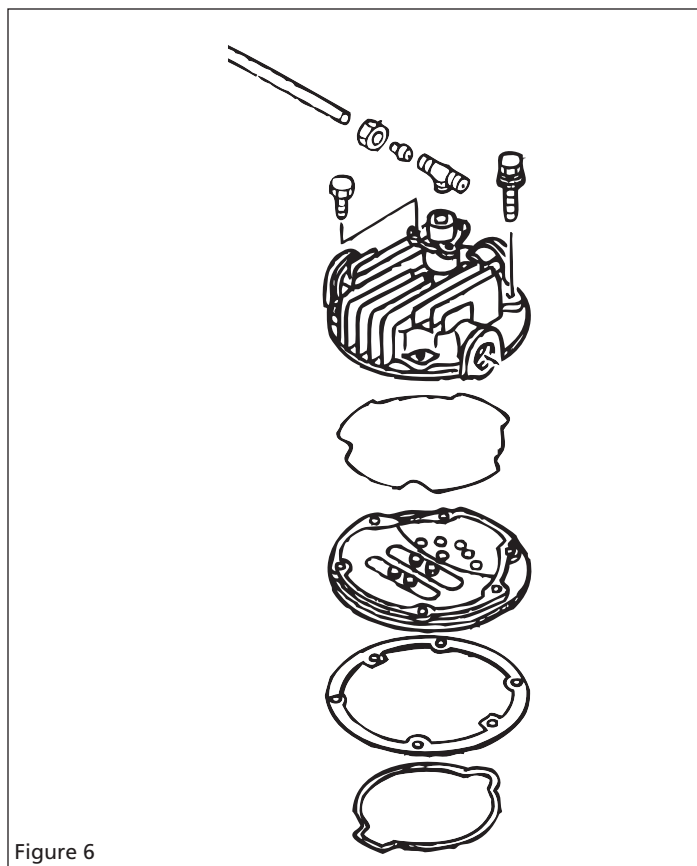

Figure 6
2. Remove cylinder head and valve set. If it is difficult to remove by hand, insert screwdriver between cylinder and valve set and remove (See Figure 6 and 7).